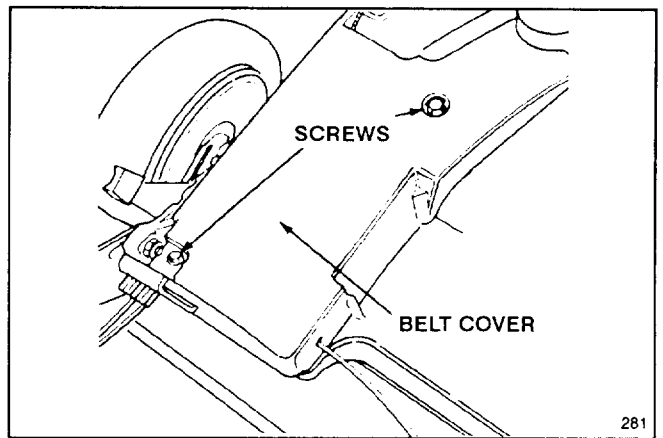

Figure 19
5. Remove (2) screws securing belt cover to deck (Fig. 19). Lift off cover.
7. Reinstall belt cover with (2) screws.